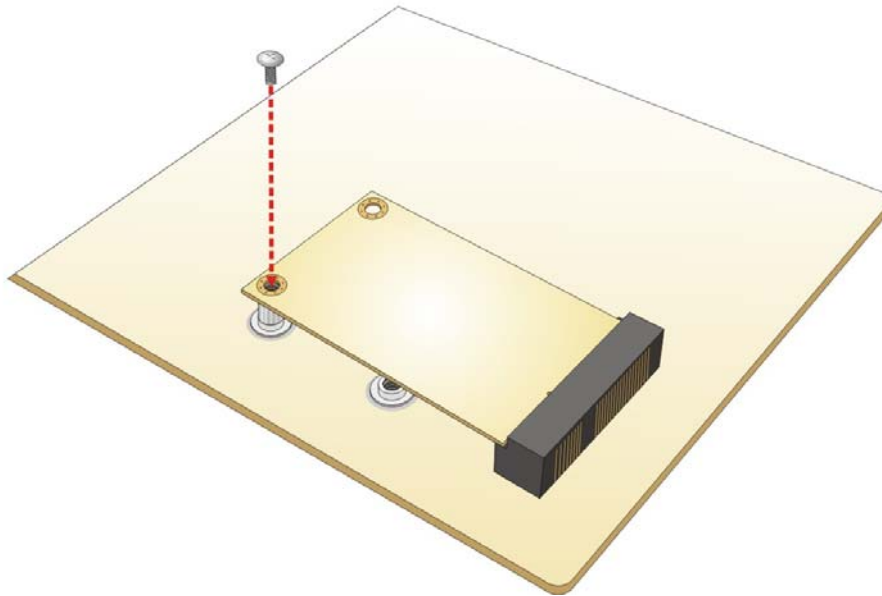

Figure 4-10: Securing the Full-size PCIe Mini Card
Step 5: Secure the full-size PCIe Mini card. Secure the full-size PCIe Mini card with the retention screw previously removed (Figure 4-10).